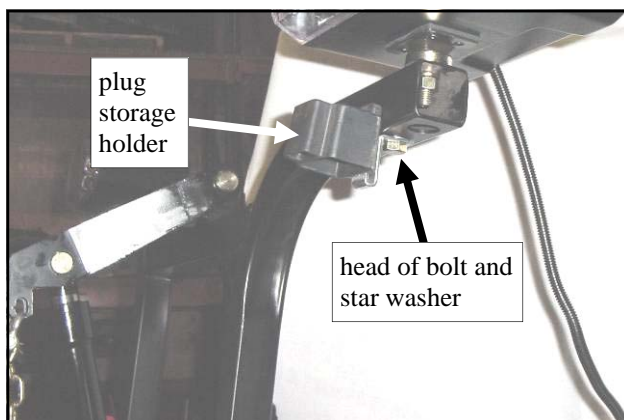

Fig. 9.4 (view from front of driver's side)
9.4 Per fig. 9.4, install the plug storage holder oriented so it's towards the front of the lift frame. Use the following hardware into the factory installed threaded insert in the bottom wall of the lift frame tubing on the driver's side: one 1/2-13 x 1" long hex head bolt and one 1/2" star washer. Use caution to avoid cross-threading the factory installed threaded insert. Start the thread engagement by hand. Tighten the bolt fully.